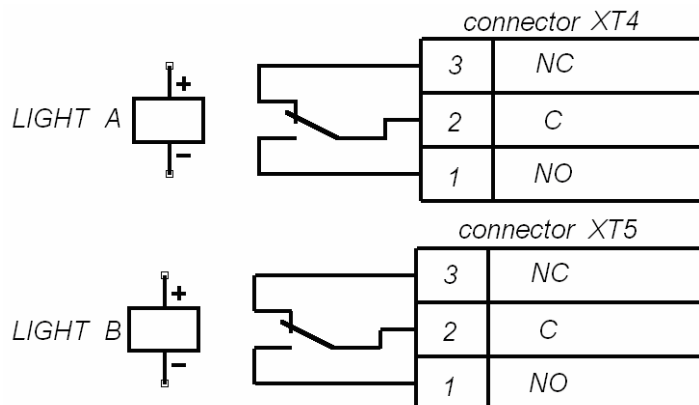

Figure 10. Output cascades for Light A and Light B
5.9.4 The remote indicators are connected to the connector blocks *XT4* (Light A) and *XT5* (Light B). At that the “Light A” (“Light B”) relay is active (the voltage is supplied to the relay coil), when the “Green arrow” pictogram on the LED indication display, corresponding to the set passage direction, lights, and it is passive, when the “Green arrow” pictogram on the Led display does not light. The response/release of the relays “Light A” and “Light B” can be defined according to lighting up/going down of the red indicators, which are installed near the above mentioned relays (Fig. 5). Output cascades for the “Light A” and the “Light B” relays are nonbridging relay contacts (Fig. 10) with the following signal characteristics: